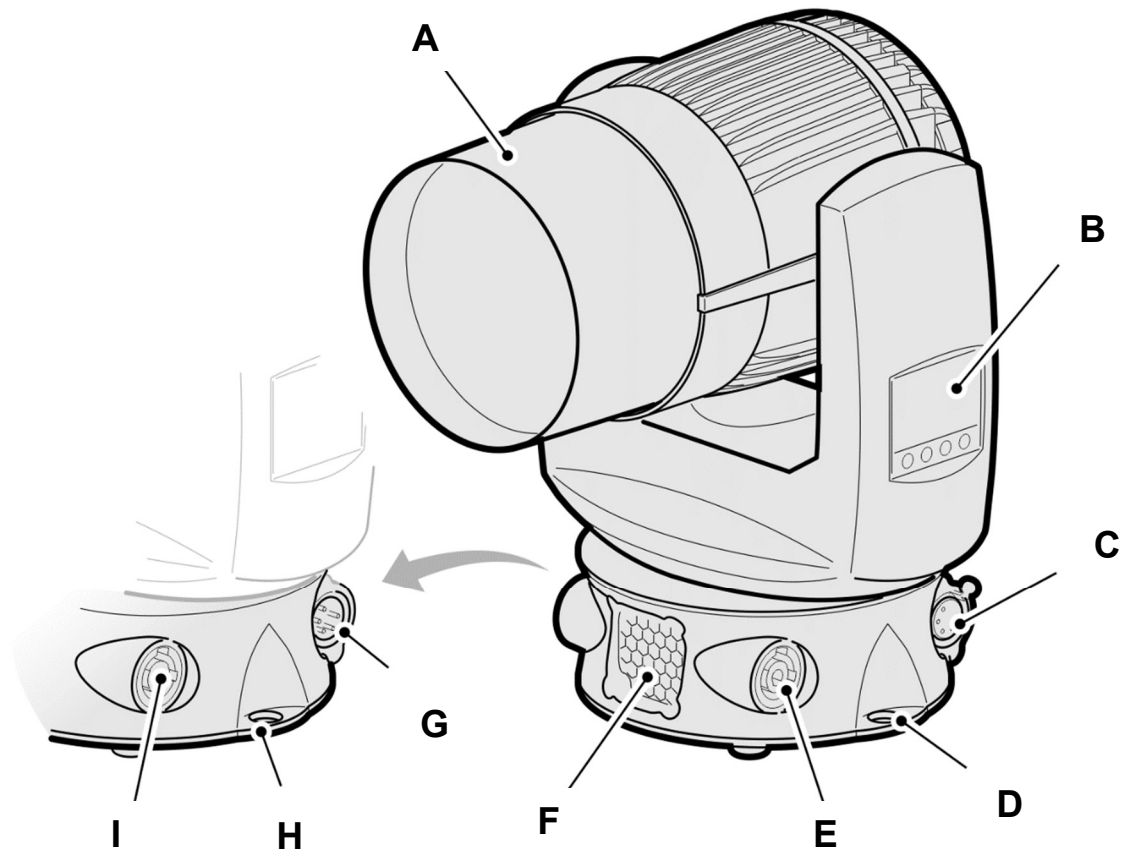

Figure 2: Product overview
2. See **I** in Figure 2 on page 9. Connect the power input cable to the *Mains In* socket by inserting and twisting clockwise to lock.